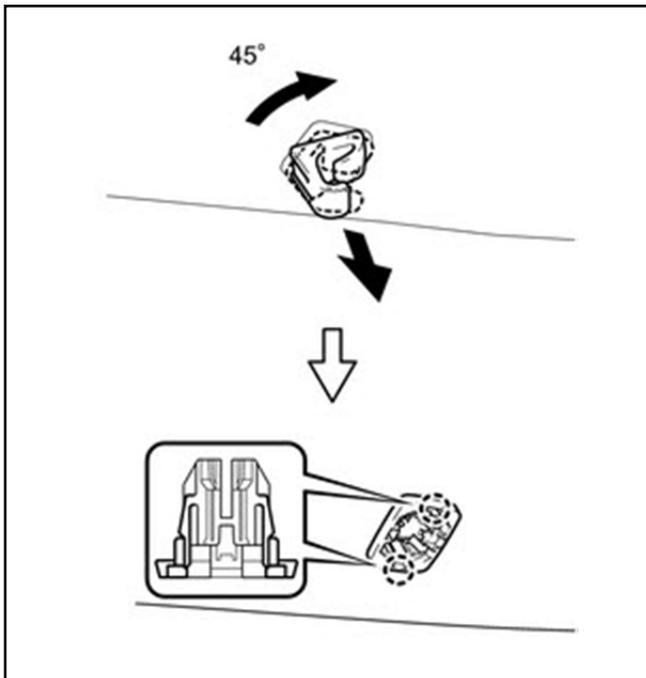

Figure 4
4. Turn the LH visor holder approximately 45° and pull it out as shown in the illustration. See figure 4.